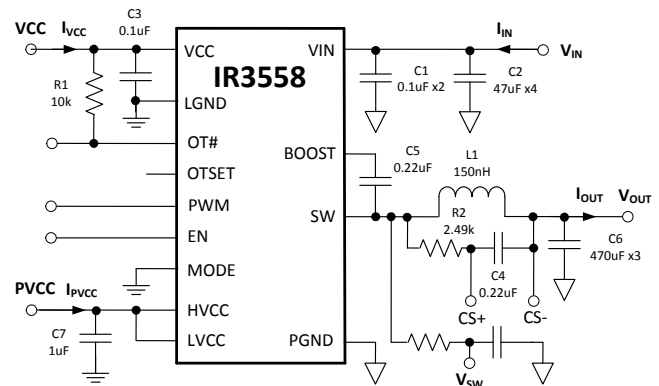

Figure 32: IR3558 Power Loss Measurement
Circuit of Figure 32,  $V_{IN}=12V$ ,  $V_{OUT}=1.2V$ ,  $f_{SW}=400kHz$ ,  $L=150nH$  (0.29mΩ),  $V_{CC}=5V$ ,  $HV_{CC}=LV_{CC}=7V$ ,  $T_{AMB}=25^{\circ}C$ , no heat sink, no air flow, 8-layer PCB board of 3.7" (L) x 2.6" (W), no PWM controller loss, no inductor loss, unless specified otherwise.
Circuit of Figure 32,  $V_{IN}=12V$ ,  $V_{OUT}=1.2V$ ,  $f_{SW}=400kHz$ ,  $L=150nH$  ( $0.29m\Omega$ ),  $V_{CC}=5V$ ,  $HVCC=LVCC=7V$ ,  $T_{AMB}=25^{\circ}C$ , no heat sink, no air flow, 8-layer PCB board of 3.7" (L) x 2.6" (W), no PWM controller loss, no inductor loss, unless specified otherwise.
The single-phase IR3558 efficiency and power loss measurement circuit is shown in Figure 32.